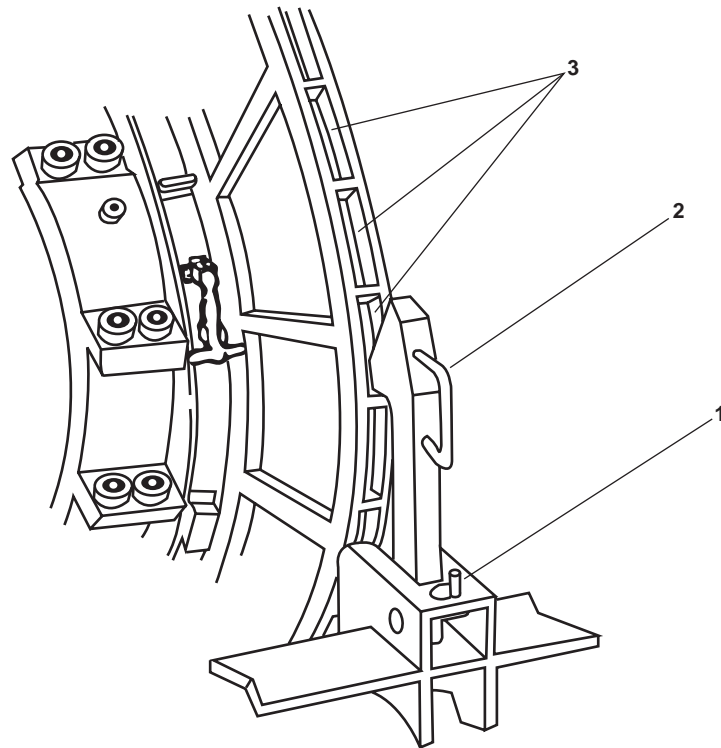

Figure 1. Mechanical Dog Operation
2. Remove the quick release pin (figure 1, item 1).
3. Engage the mechanical dog (figure 1, item 2) in the ratchet teeth (figure 1, item 3).
7. Install the quick release pin (figure 1, item 1).
2. Ensure that the mechanical dog (figure 1, item 2) is not engaged.